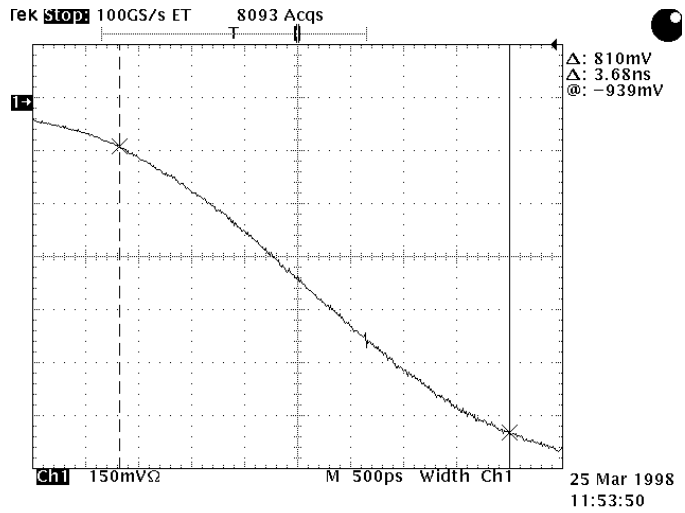
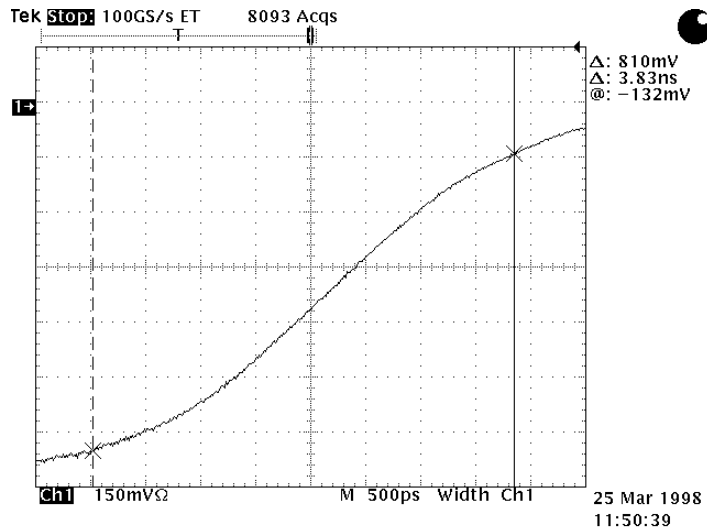

Figure 6-4. Negative Rise Time Measurement
Figure 6-5. Negative Fall Time Measurement
10. Repeat steps 5 through 9 for the negative-going waveform (Figure 6-4 and Figure 6-5).
Note: The rise time (Δt) in Figure 6-4 is measured to be 3.68 ns.
Note: The fall time (Δt) in Figure 6-5 is measured to be 3.83 ns.